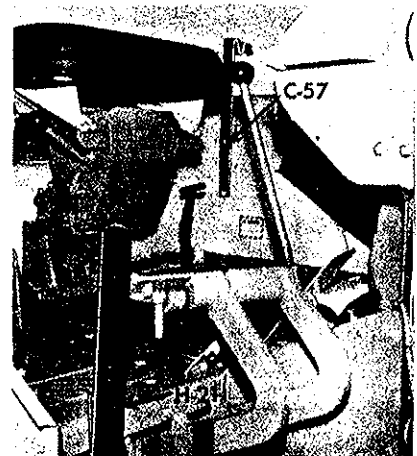

Figure 2
1. Bolt the H-21 pedal guard to platform on right side using 3/8" x 1 1/2" bolt and nut. See Figure 2.
9. Remove the bolt from side of left fender and bolt lower end of C-57 door latch to fender using 5/16" x 2" bolt. Using top hole in door latch as template drill another hole into fender and bolt to fender using other 5/16" x 2" bolt and nut. See Figure 2.